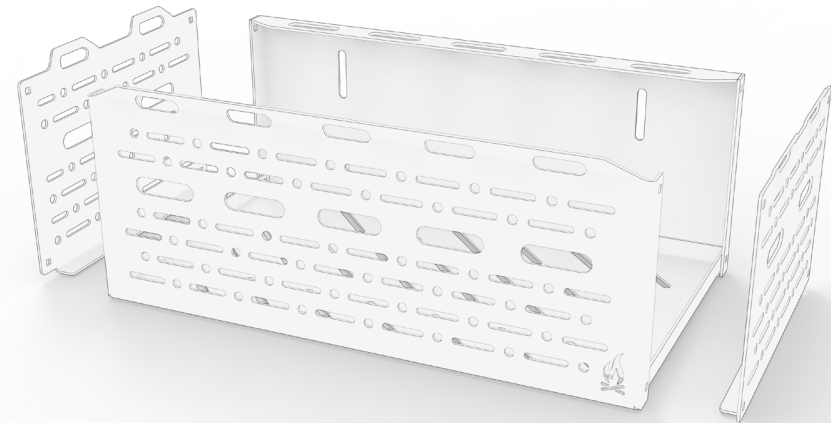

FIG 7
2.3 Position Side Panels: Position the (2) Side Panels in the orientation as shown in FIG 7+8.